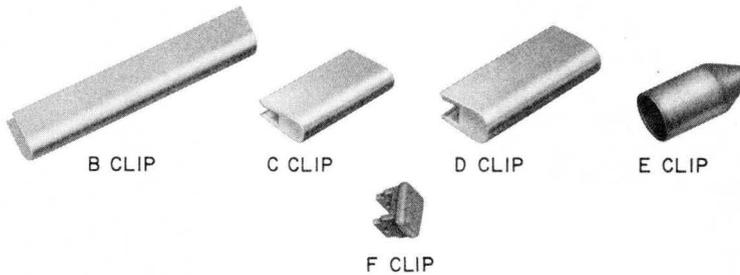

Fig. 10—Clip Terminal Insulators
- Insulator, Terminal, Clip E, Fig. 10
- Insulator, Terminal, Clip F, Fig. 10